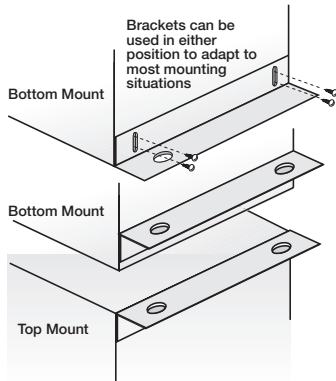

Fig. 8
2. Attach adjustable mounting brackets to fan, but leave the screws loose until proper height is determined, shown in Fig. 8. Cut hole to dimensions shown in Table: